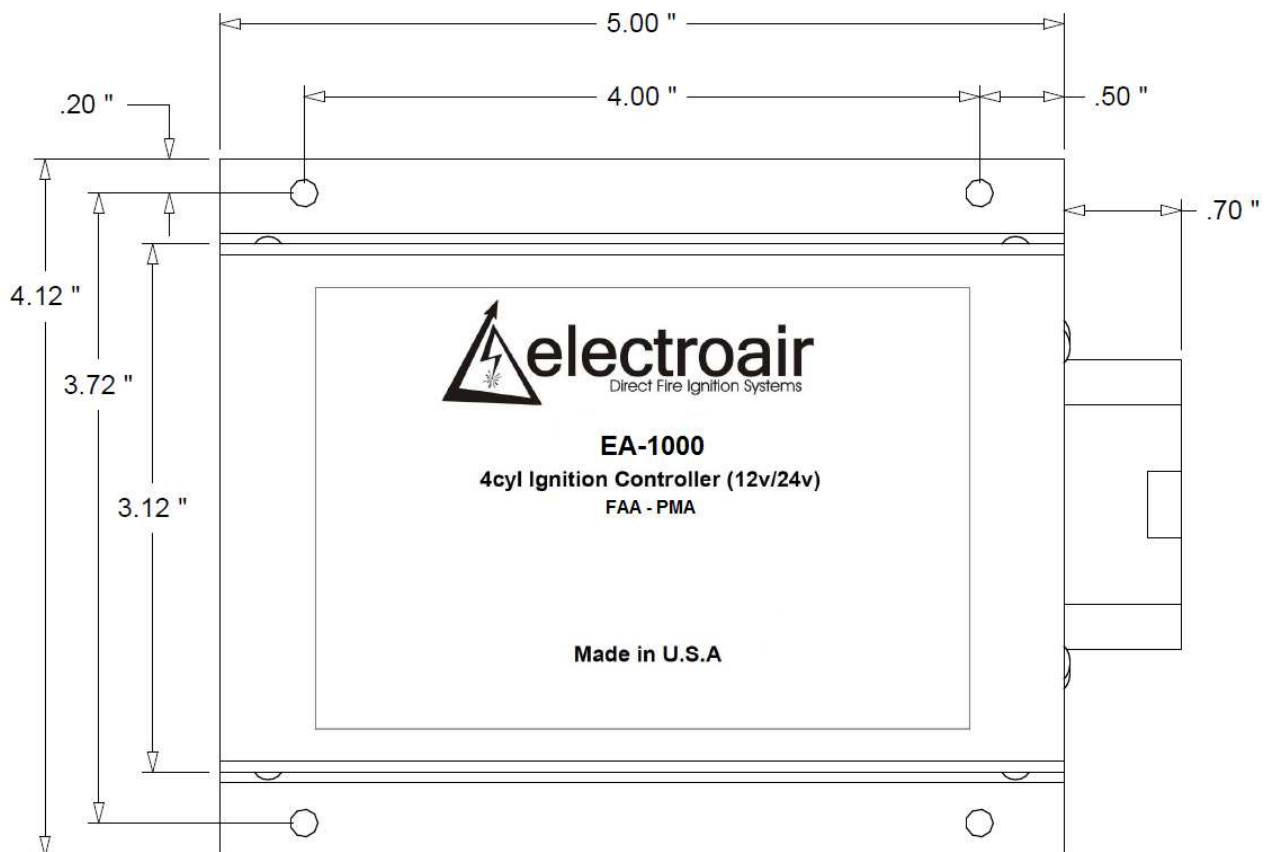

Figure 4.1: p/n: EA-1000 overall and hole dimensions
- a. **EA-1000 Installation:** Install p/n EA-1000 EIS Controller where temperatures will not exceed 150F. Because of this, we recommend that the EIS Controller be mounted on the cockpit side of the firewall with the shortest practical distance from the coil pack for the wiring harness runs. Reference Figure 4.1 for controller dimensions.